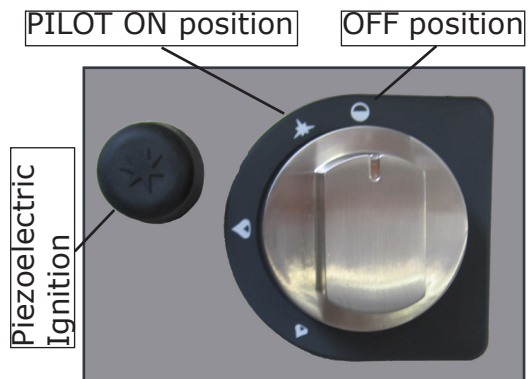

Fig.12
- turn the knob and hold it pressed in the pilot burner ignition position★ (**Fig.12**). At the same time, repeatedly press the piezoelectric ignition